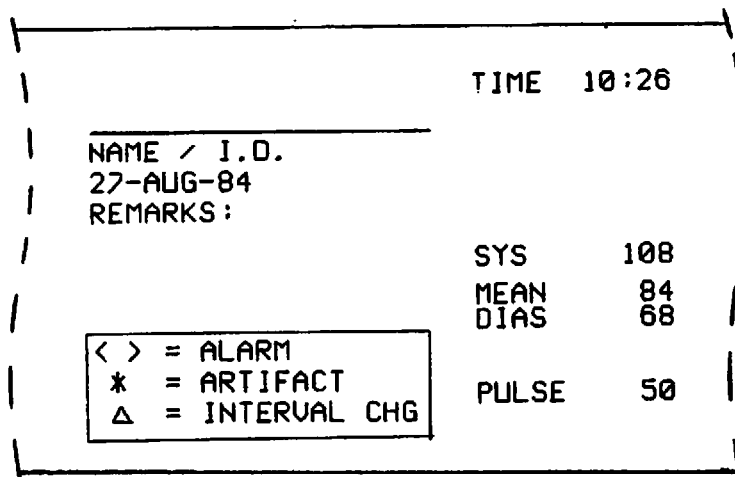

FIGURE 2-5. PRINTER ANNOTATION - AUTOMATIC MODE
- E. Press MODE SELECT to select a one minute automatic cycle. Repeat inflation cycle test, and insure that the printer annotates the blood pressure/pulse values as shown in Figure 2-5.